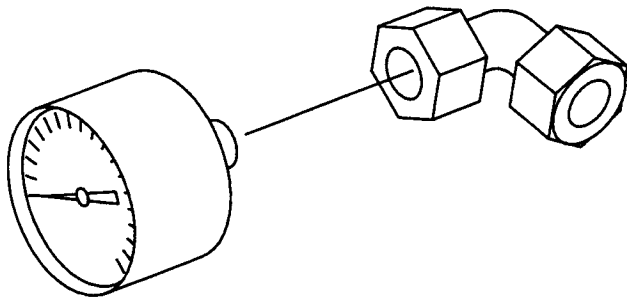

FIG. 10
- Connect a pressure gauge to the product water fitting of the RO module assembly (See Fig. 10).